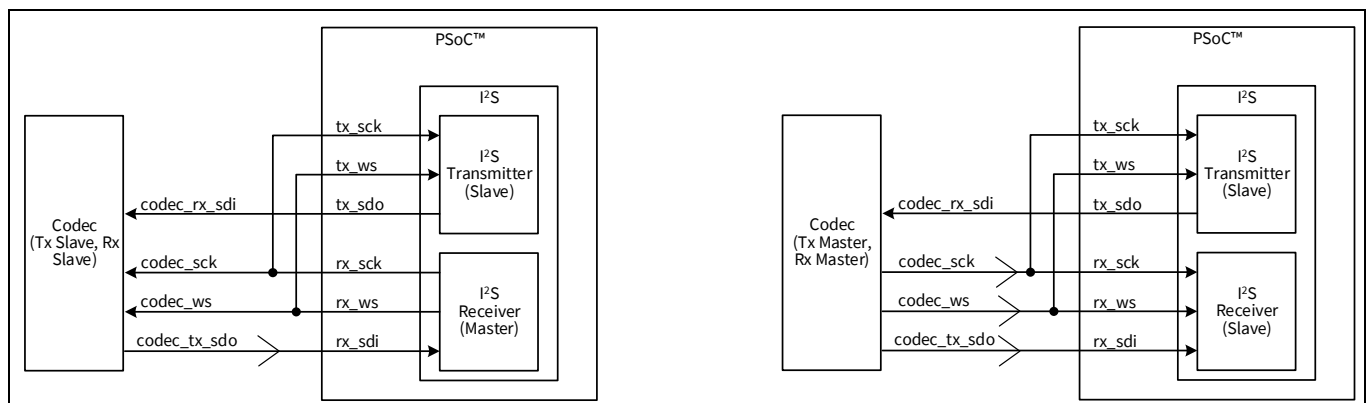

Figure 29-5. Interfacing with codecs having common ws and sck signals
- Codecs with common ws and sck signals for both Rx and Tx directions: There are two possible configurations to interface these codecs with the PSoC™ 6 MCU as shown in Figure 29-5. In both configurations, the sck signals (tx_sck, rx_sck, codec_sck) are shorted externally. The same goes for the ws signal connections as well (tx_ws, rx_ws, codec_ws). Ensure that only one block is driving the sck and ws lines. So when the codec acts as the slave device, the PSoC™ I²S Rx block should be in the master mode, and the PSoC™ I²S Tx block should be in the slave mode (or PSoC™ I²S Rx as slave and PSoC™ I²S Tx as master). When the codec acts as the master device, both the PSoC™ I²S Rx and PSoC™ I²S Tx blocks should be in slave mode.